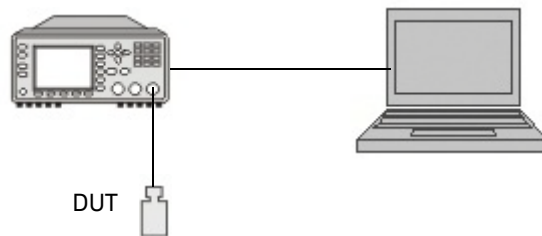

Figure 1-6 Zero set performance verification equipment setup
- 1 Connect the DUT (E-Series E4412A or E4413A power sensor) to the power meter as shown in Figure 1-6.